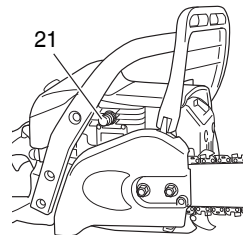

Fig. 15
3. Push the decompression valve (21). The valve (21) will automatically return to the original position once the engine has started. (Fig. 15).